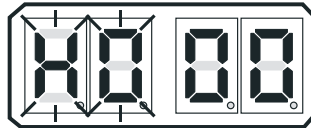

Figure 10-3: Display Function Blinking
- B Depress and hold the Left and Right Push Buttons simultaneously until the **H0** begins to blink. (Figure 10-3: Display Function Blinking) Release the Push Buttons; the applied battery voltage will now be displayed: